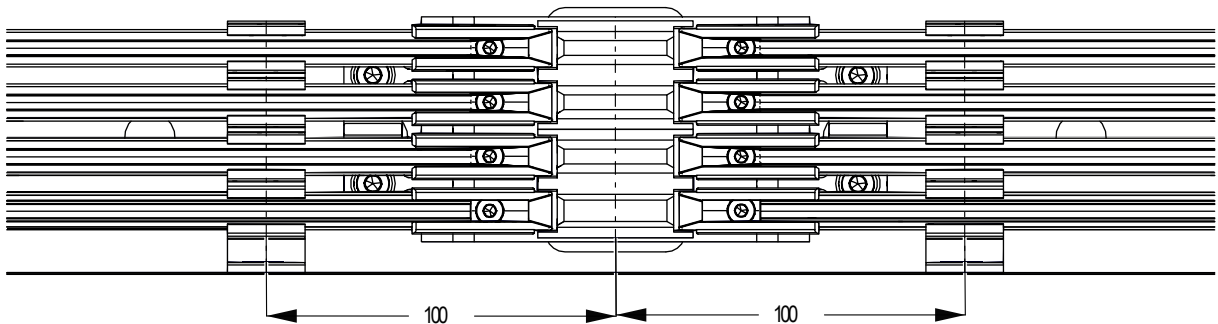

Fig. 6: Distance sliding contact sensor unit and hanger clamps
- It is imperative to install hanger clamps on the left and right of the sliding contact sensor unit at a distance of approx. 100 mm (Fig. 6)